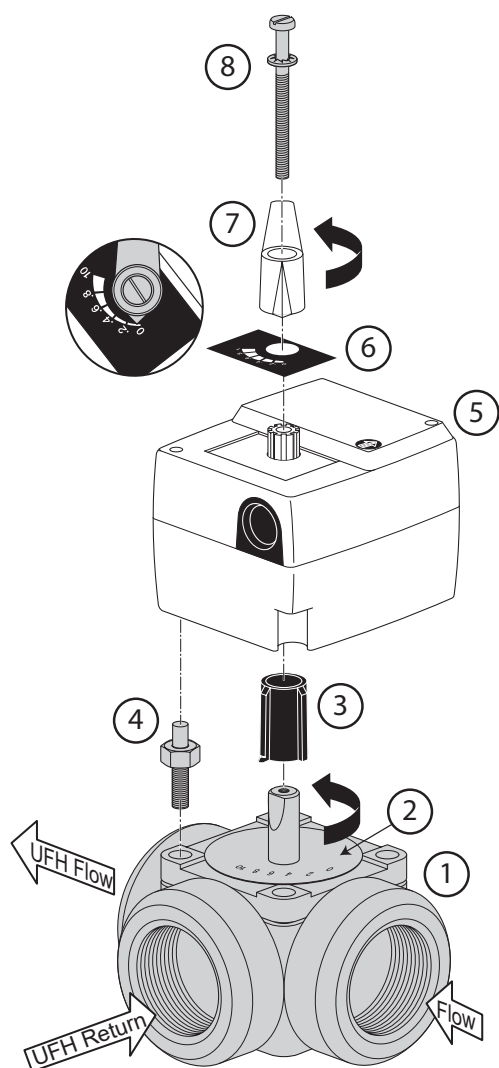

Figure C-1: Motorised Actuator and 3-Port Valve
2. Ensure actuator scale plate is in position and set as per Figure C-1. i.e. '0' to the left.